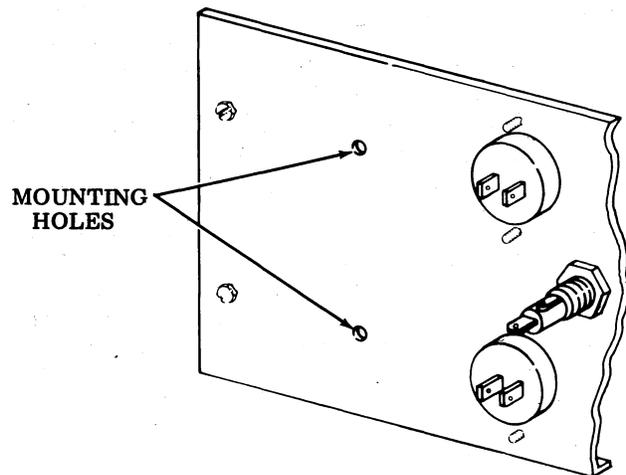

Figure 4 - 44A Terminal Block Mounting Holes
(2) Open the cabinet door by pulling on the upper left-hand corner and pull the receiver module forward as far as it will go. Lift the front of the module to clear the cabinet stop, remove the module and place it on the floor. It is not necessary to disconnect the cables. Similarly remove the accessories mounting frame.
(3) Loosen the four captive screws which secure the shelf at the bottom of the cabinet, and remove the shelf.
(4) Place the data set in the bottom of the cabinet. Tilt the 402D Data Set slightly and make connections between the data set, electrical service panel, and receiver module. Replace the bottom shelf, the receiver module, and the accessories frame.
(5) Mount a 44A telephone terminal block backboard and terminal board on the electrical service panel at the rear of the cabinet, if required (Figure 4). Two mounting holes on the left side of the cabinet (looking from the rear) are provided. (Refer to the data set instruction material for the type of terminal block required.)
(6) Remove the three screws that secure the panel at the center of the cabinet, remove the panel and place the 804A Data Auxiliary Set on the shelf provided. Replace the panel and the three screws.